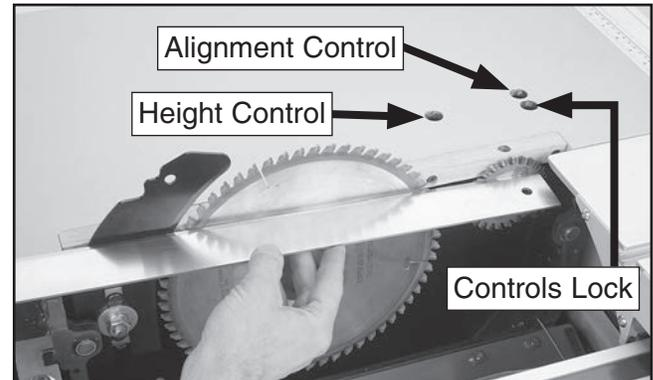

Figure 46. Checking and adjusting scoring blade positioning.
2. Unlock the scoring blade controls by inserting a 6mm hex wrench into the controls lock hole shown in **Figure 46** and turning the mechanism inside counterclockwise until loose.
3. Place a straightedge across the body of the main blade (not the teeth) and align the body of the scoring blade to the main blade, by turning the alignment control (**Figure 46**) with a 6mm hex wrench.
4. Adjust the height of the scoring blade, by turning the height control (**Figure 46**) with a 6mm hex wrench, until the exposed portion equals the kerf thickness of the main blade.